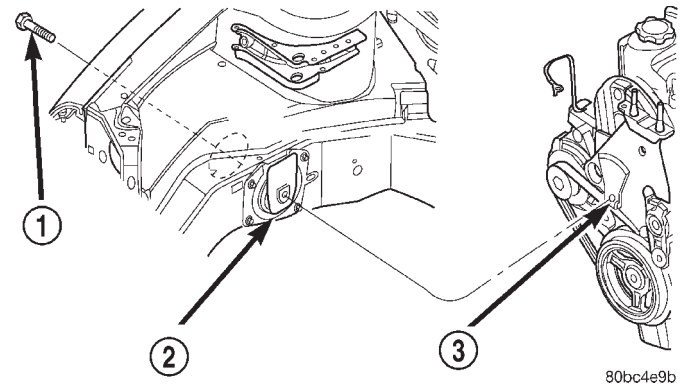
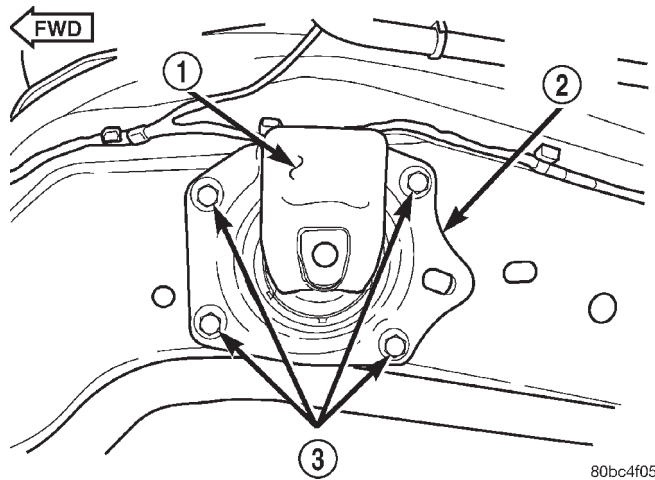

Fig. 18 Engine Mount To Bracket Bolt
Fig. 19 Engine Mount—Right
- (1) Remove accessory drive belts. Refer to Group 7, Cooling System for procedure.
- (2) Remove crankshaft damper. Refer to procedure in this section.
- (3) Remove upper and lower engine torque struts. Refer to procedure in this section.
- (4) Support engine with a suitable jack.
- (5) Remove bolt access cover and bolt attaching the right engine mount to mount bracket (Fig. 18).
- (6) Remove engine mount bracket. Refer to procedure in this section.
- (7) Using a permanent ink marker or equivalent, mark the position of engine mount to the body frame rail.
- (8) Remove bolts attaching mount to body (Fig. 19).
- (9) Remove mount between engine and body frame rail. Mount removal may require engine position to be raised or lowered to allow mount removal clearance.
- (1) Position mount into the original position on body frame rail (Fig. 19).
(2) Perform the following procedure if mount position was not previously marked or the frame rail was replaced:
(3) Ensure the mount maintains originally marked position and install mount bolts. Tighten bolts to 28 N·m (250 in. lbs.) (Fig. 19).
(4) Install engine mount bracket. Refer to procedure in this section.
(5) Install bolt attaching right engine mount to bracket and tighten to 118 N·m (87 ft. lbs.) (Fig. 18).
(6) Remove support from under engine.
(7) Install upper and lower engine torque struts. Refer to procedure in this section.
(8) Install crankshaft damper. Refer to procedure in this section.
(9) Install accessory drive belts. Refer to Group 7, Cooling System for procedure.